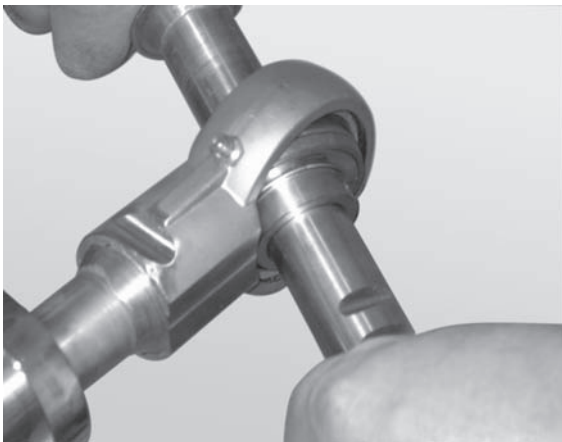

Figure 87
2. Insert the rod end of a second bearing shaft through the bearing (**Figure 87**).